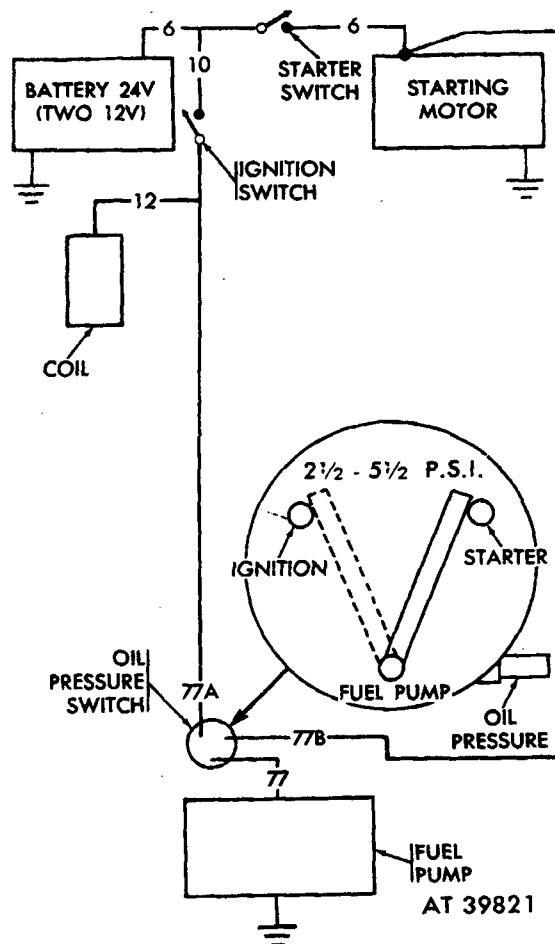

Figure 2-70. Fuel pressure safety switch circuit diagram.
*d. Testing Fuel Pump Safety Switch (Oil Pressure Safety Switch).* Refer to figure 2-70.